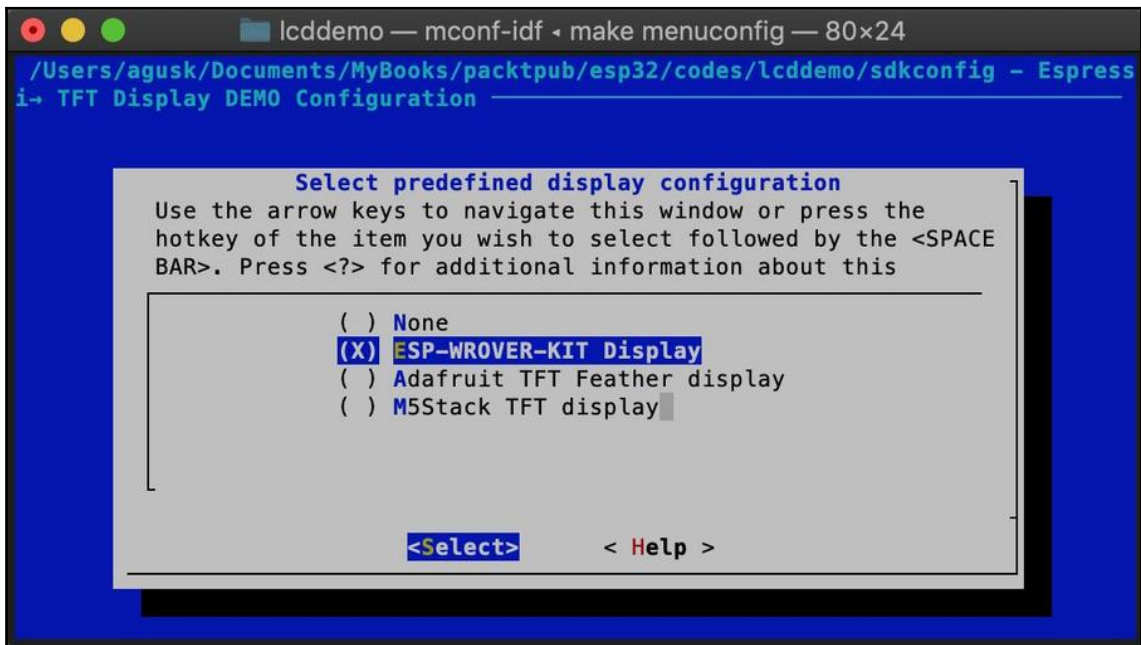

Figure 2-11: Selecting ESP-WROVER-KIT Display
5. You will see a list of TFT modules as shown in Figure 2-11.